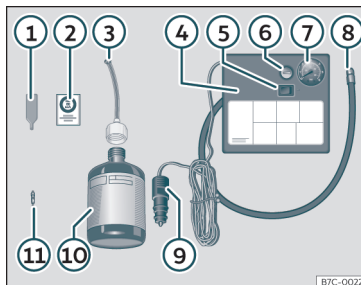

Fig. 83 Standard display: contents of the anti-puncture kit.
>>> **Fig. 83:**
Screw in the inflator tube >>> **Fig. 83** ⑧ again and check the pressure on the gauge ⑦.